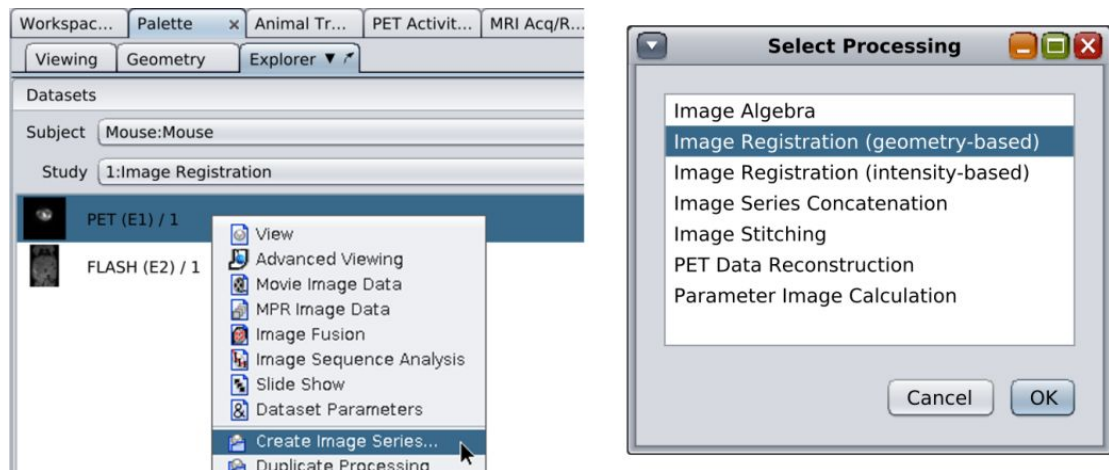

Figure 1.407: Create an image registration processing
2. Right-click the source image series, and select **Create Image Series** (see Figure 1.407 [▶ 455]).